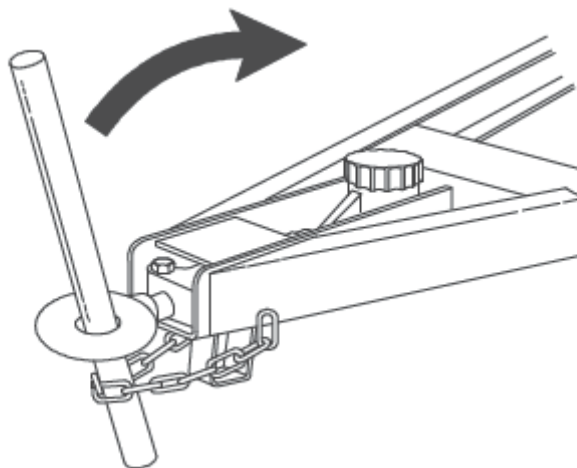

Figure 12 Tow Coupling Compression Method
- g. Pump the master cylinder through the tow coupling as shown in Figure 12. Continue pumping until a solid column of brake fluid appears in the plastic tube.